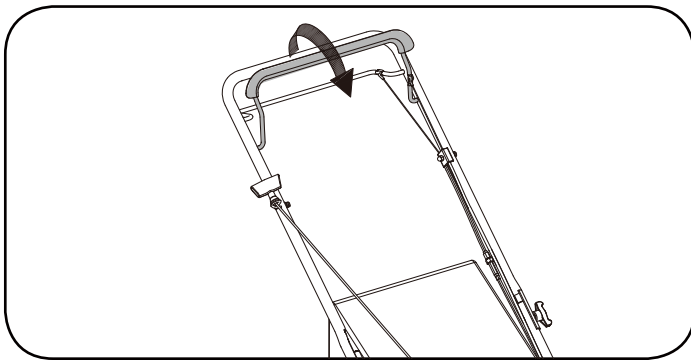

Figure 16
1. Release blade control to stop the engine and blade. (Figure 16)